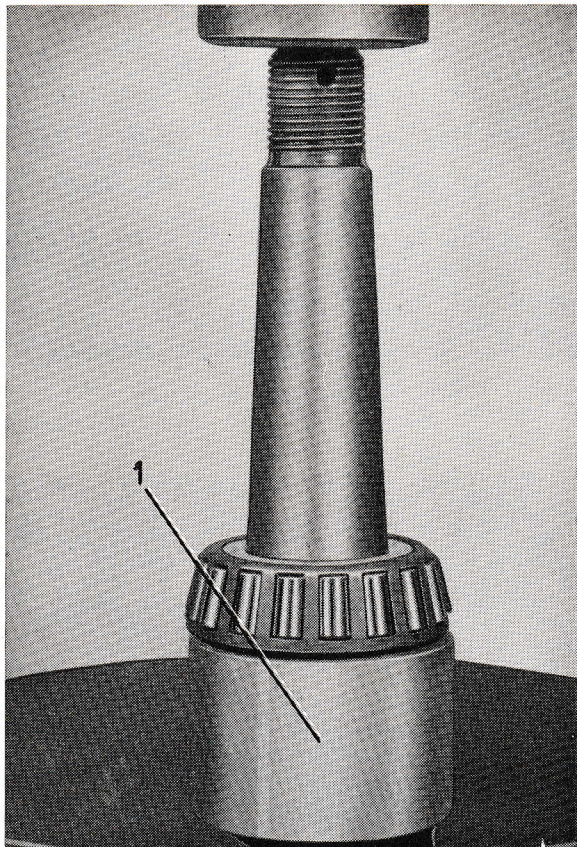

Fig. 9. Removal of axle shaft bearing.
3. Press off the bearing as shown in Fig. 9 and then fit the new one (see the tool list on page 20—23 concerning SVO tools).